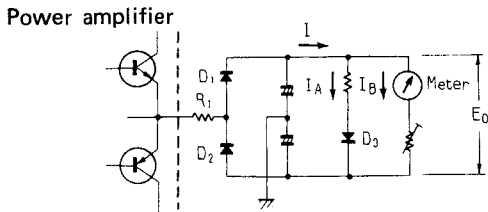

Fig. 3 Meter drive circuit
The output signal of the power amplifier is passed through R₁ and full-wave rectified by D₁ and D₂ to a DC voltage (E_o) corresponding to the signal level (Fig. 3). When the output signal of the power amplifier is small, and E_o ≤ V_F, (D₃ forward voltage ≐ 0.6V), the forward resistance of D₃ becomes high and current (I) becomes I ≐ I_B. When the output signal of the power amplifier is large, and E_o > V_F, the forward resistance of D₃ becomes low, and current (I) becomes I = I_A + I_B.